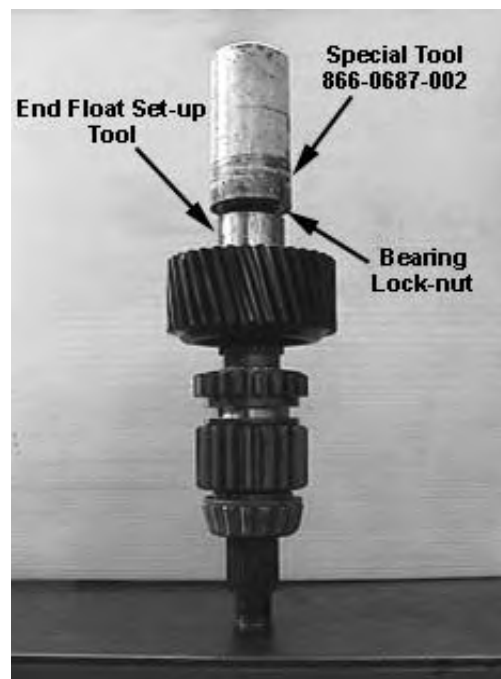

Fig. 37
6. Place the end-float set-up tool onto the shaft and install the rear bearing lock nut using special socket #866-0687-002. Torque to spec. *See Fig. 37.*